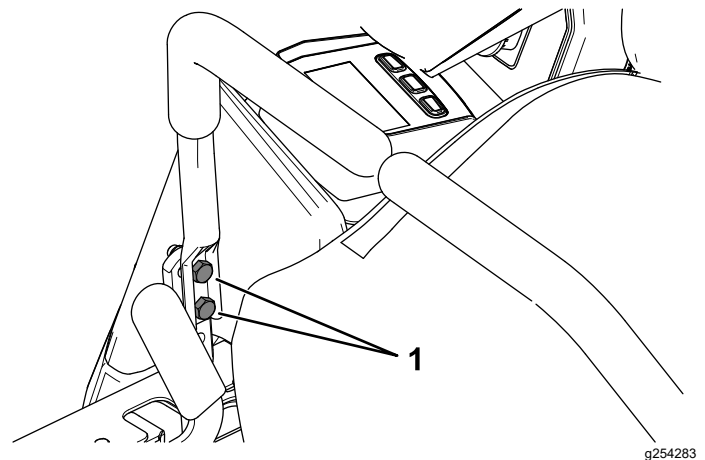

Figure 51
10. If alignment is needed, loosen the 2 motion-control lever mounting bolts on the misaligned side (Figure 51).
12. Tighten the 2 motion-control lever mounting bolts (Figure 51).